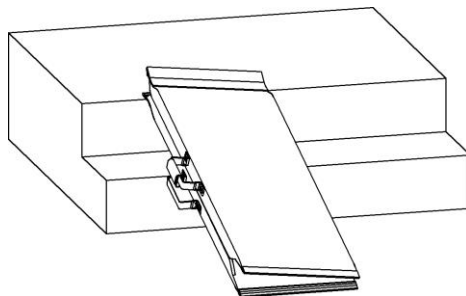

FIG. 2
2. Place ramp on landing in the folded position, making sure that the top lip transition (labeled TOP) is resting securely on the landing (FIG. 2).